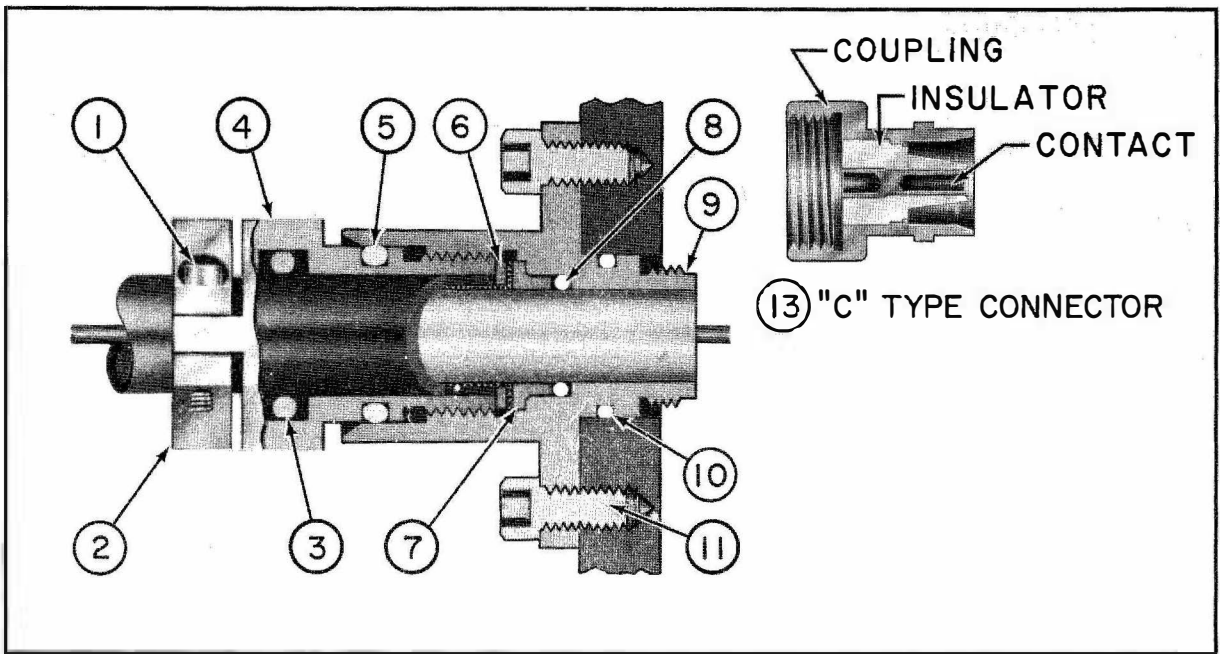
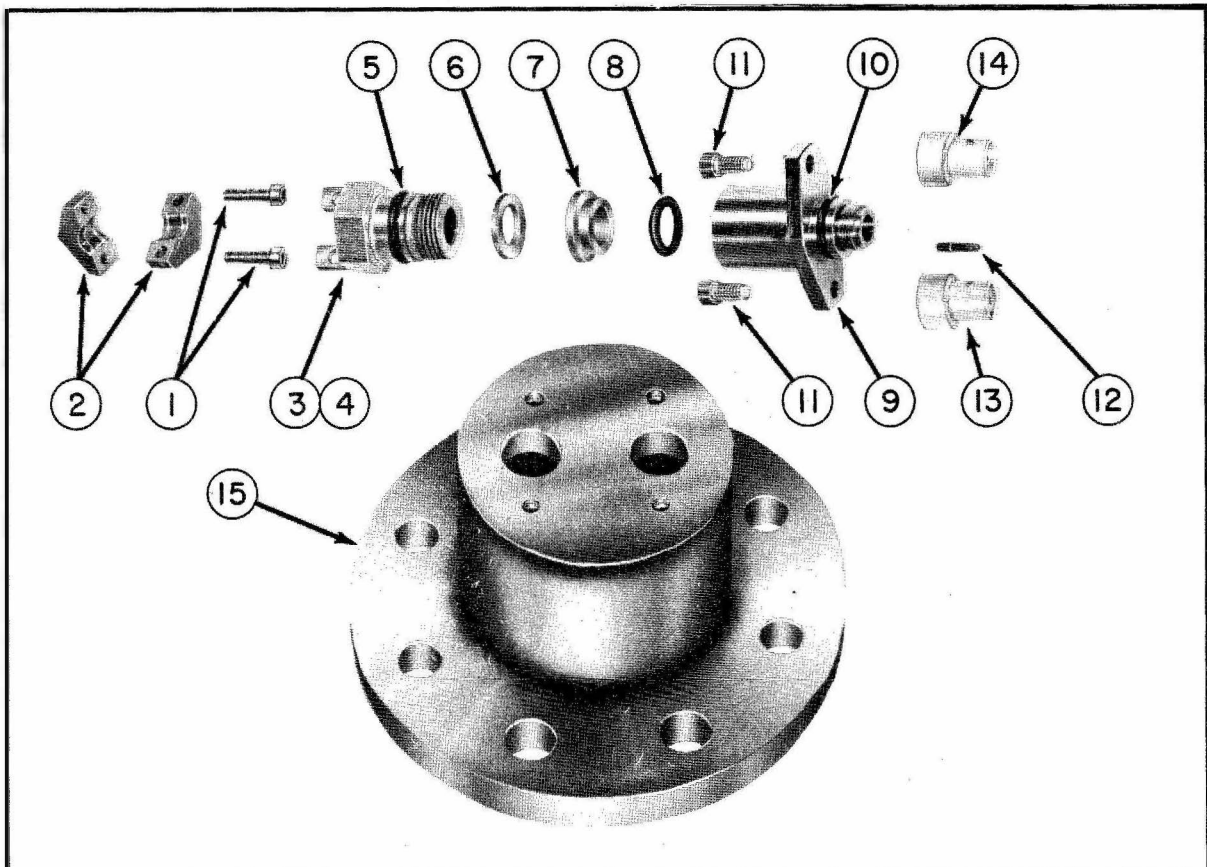

Figure 5-13a. UG-1439/U Assembled
Figure 5-13b. AB-234 B/B Exploded
(10) AB-234B/B Detailed Assembly. - The parts required for assembly of the RF cable fitting UG-1439/U in the antenna support base are shown in a cut-away view for the completed assembly (figure 5-13a) and an exploded view (figure 5-13b). The parts in these illustrations are given part number for identification and are referred to in the Assembly instructions. RG-217/U or RG-14A/U cable is used in these fittings. Table 5-9 lists stock numbers for the parts.